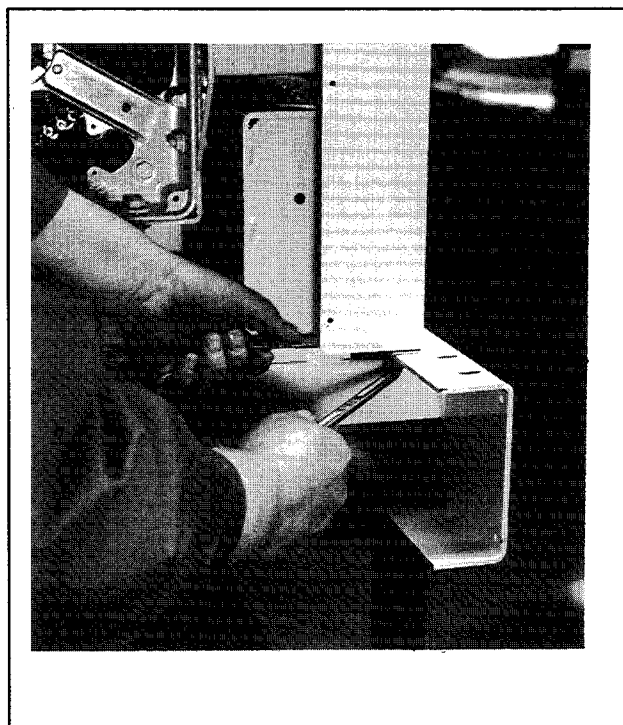

Figure 8-6. Removing Junction Box
7. Remove four screws and nuts attaching junction box to generator skid. See Figure 8-6.